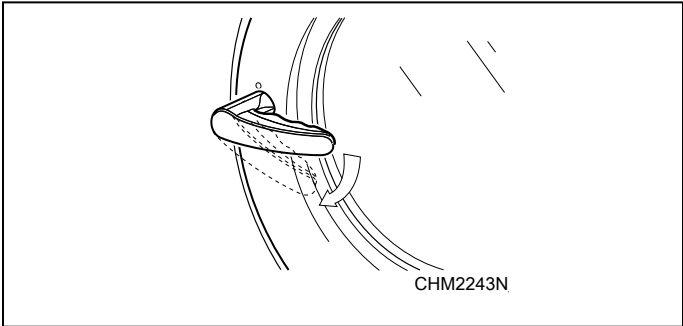

Figure 52
- 2. Turn handle clockwise to open. Refer to *Figure 52*.